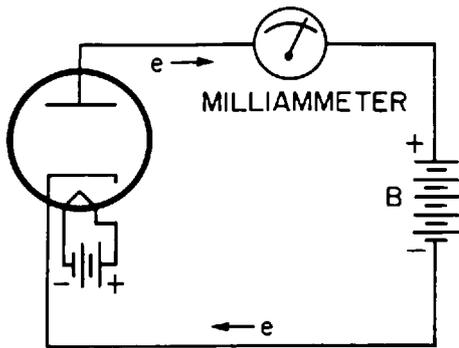
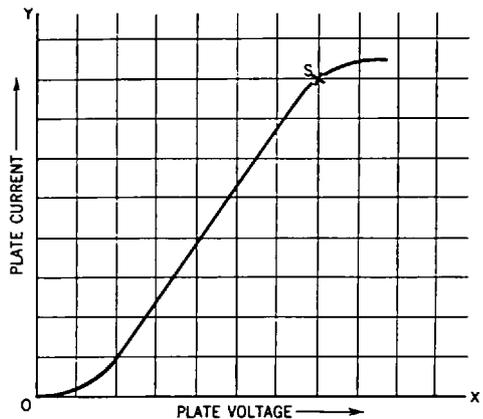

Fig. 38-1. Circuit to show relationship between plate current and plate voltage.
Fig. 38-2. Graph showing the characteristic curve of the diode.
If we connect our diode as in Figure 38-1, and keep the current from the filament battery constant, we are able to see the relationship between changes in the B or plate voltage and the number of electrons attracted to the plate (that is, the amount of plate current as measured by the milliammeter).
**Plotting the Diode Characteristic Curve.** If we plot our findings on a graph, we get a curve similar to that of Figure 38-2. This curve is called the *characteristic curve* of the diode. Arrange the circuit as shown in Figure 38-1 with a clip on one of the leads to the B battery. Connect a voltmeter across the part of the B battery